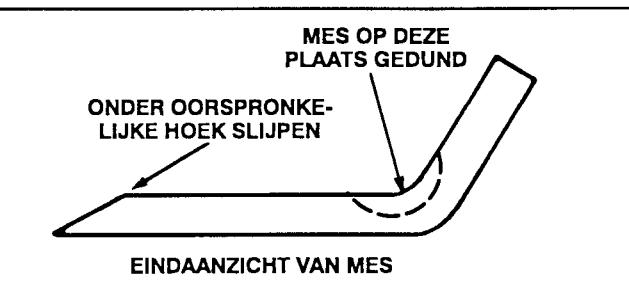

Figure 22
7. Using a file, sharpen the cutting edge at both ends of the blade (Fig. 22).
Check the cutter blade every time rider is tipped on end. If the blade bolt holding blade is loose, tighten it to 45-60 ft-lb (61-81 Nm). If blade or sail (Fig. 22) at end of blade is worn, eroded, or cracked, replace it. Replace the blade if it is bent. Always use genuine TORO replacement blades to ensure safety and best performance. NEVER USE WILL-FIT REPLACEMENT BLADES.